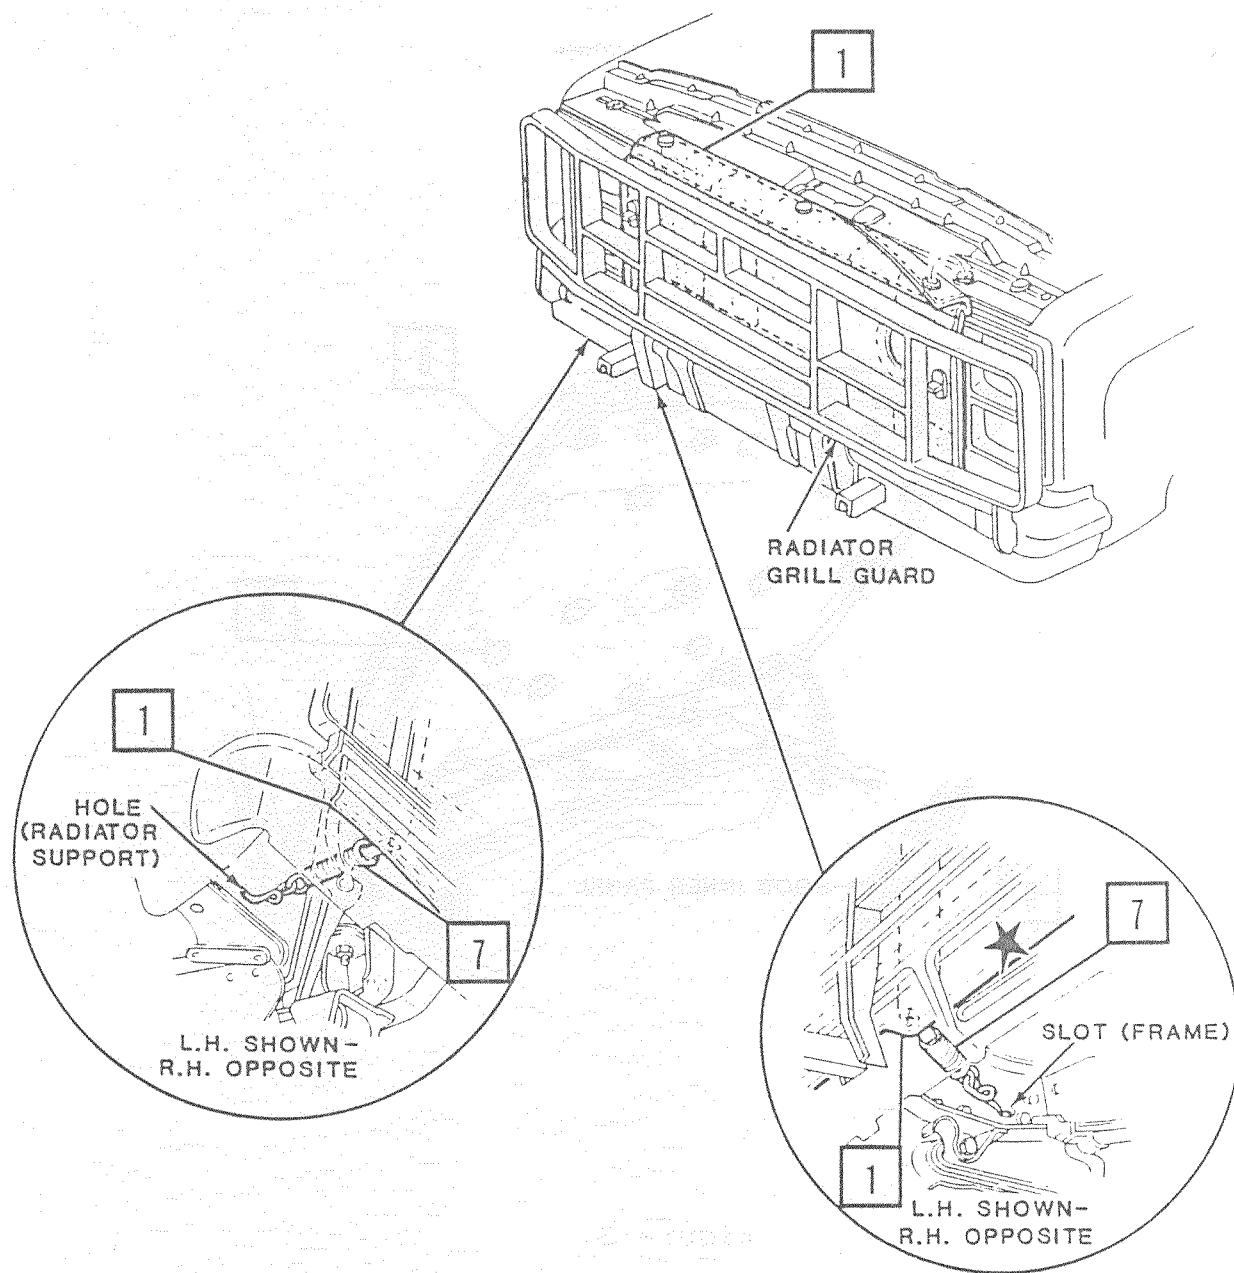

Figure 2.
8. Attach one spring to each loop at bottom of cover (Figure 2.).
9. Attach springs to frame slots and front lip of radiator support on each side (Figure 2.).